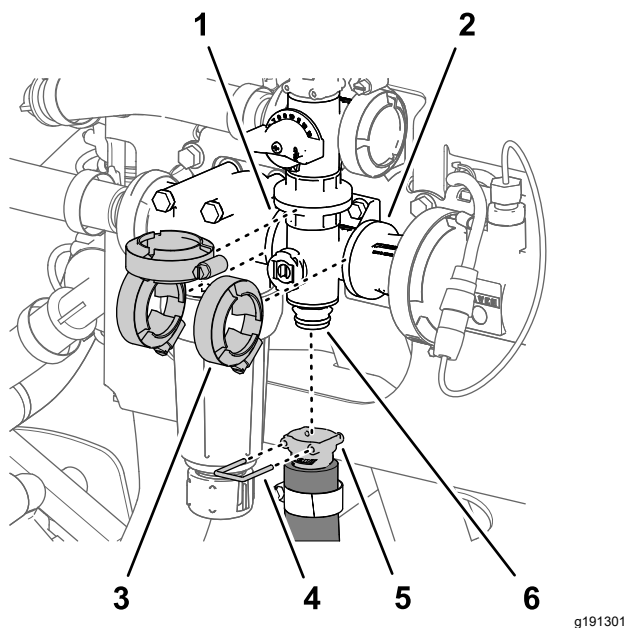

Figure 123
1. Remove the quick connect pin that secures the quick-connect coupler for the agitation hose to the manifold for the agitation valve (Figure 123).
2. Remove the 3 flange clamps that secure the agitation-valve manifold to the flanges of the pressure-filter head and the coupling adapter (Figure 123).